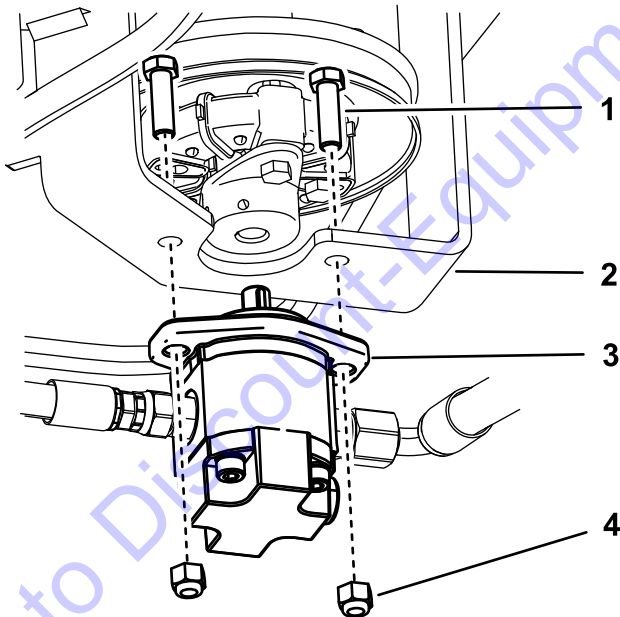

Figure 40
7. Remove the 2 bolts and 2 nuts and loosen the 2 set screws on the coupler. Remove the gear pump from the pump mount (Figure 40).
10. Install the gear pump (Figure 40).